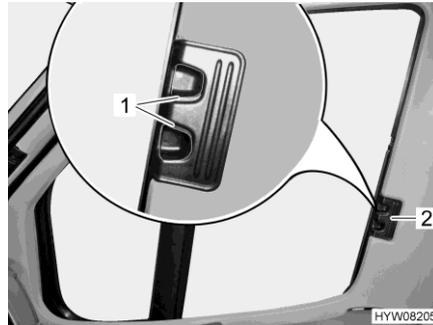
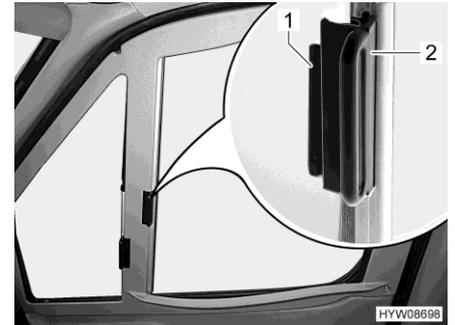

Fig. 25 Roman shade (driver's / front passenger's window, Fiat)
Fig. 26 Roman shade (driver's / front passenger's window, Mercedes-Benz)
- Depending on the locking system, press and hold down the locking handle (Fig. 25,1).
- Using the handle (Fig. 25,2 or Fig. 26,2), draw the Roman shades for the driver's and passenger's window to the other side of the window and secure them to the magnetic strips.
- Use handle (Fig. 25,2 or Fig. 26,2) to push in the Roman shades for the driver's and passenger's window as far as possible.
- Release the locking handle (Fig. 25,1) and let it click into place or push the handle (Fig. 26,2) onto the cap (Fig. 26,1).